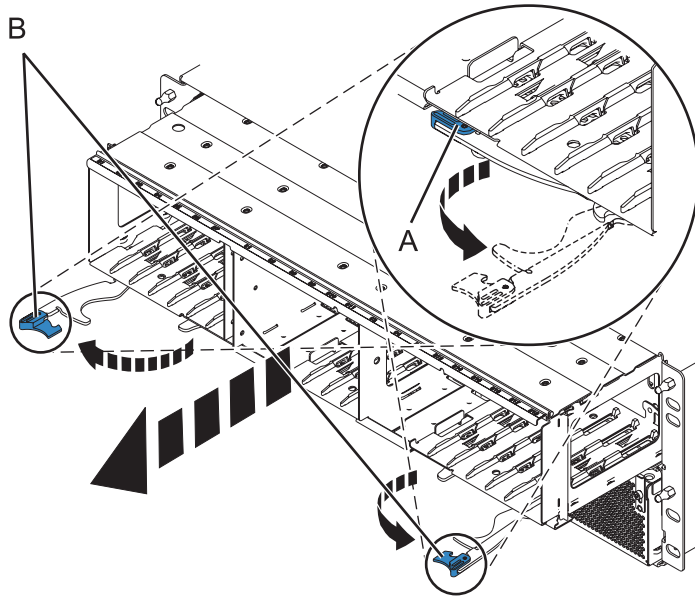

Figure 87. Removing the backplane from the enclosure
6. Remove the backplane as shown in Figure 87 on page 104.